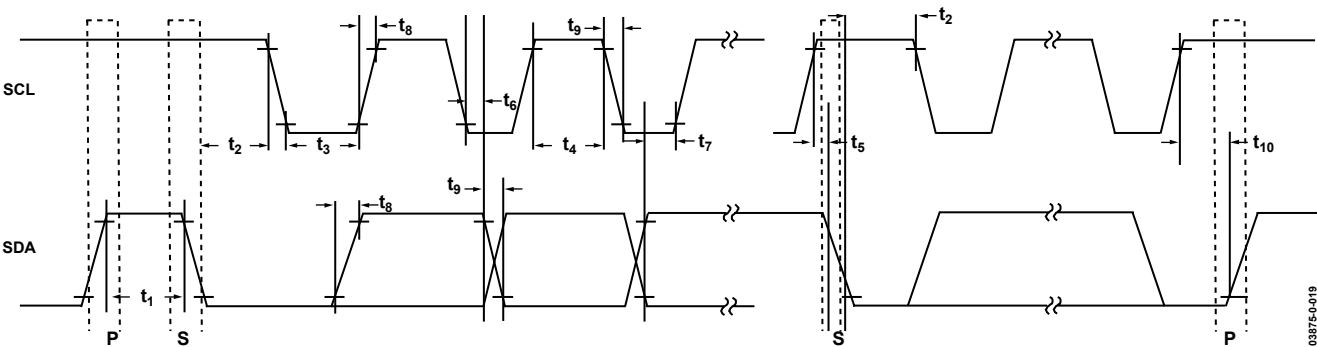
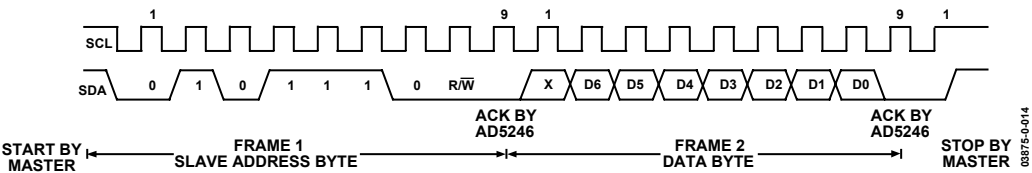
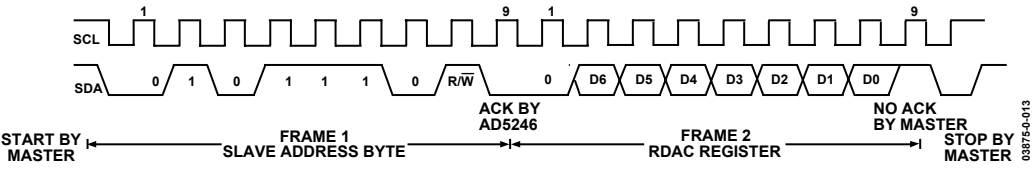

Figure 25. I2C Interface, Detailed Timing Diagram
Figure 26. Writing to the RDAC Register
Figure 27. Reading from the RDAC Register
3 See timing diagrams (Figure 25, Figure 26, Figure 27) for locations of measured values.
1. The master initiates data transfer by establishing a START condition, which is when a high-to-low transition on the SDA line occurs while SCL is high (see Figure 26). The following byte is the slave address byte, which consists of the 7-bit slave address followed by an R/W bit (this bit determines whether data will be read from or written to the slave device).
3. In read mode, after acknowledgement of the slave address byte, data is received over the serial bus in sequences of nine clock pulses (a slight difference from the write mode where eight data bits are followed by an acknowledge bit). Similarly, the transitions on the SDA line must occur during the low period of SCL and remain stable during the high period of SCL (see Figure 27).
4. When all data bits have been read or written, a STOP condition is established by the master. A STOP condition is defined as a low-to-high transition on the SDA line while SCL is high. In write mode, the master will pull the SDA line high during the tenth clock pulse to establish a STOP condition (see Figure 26). In read mode, the master will issue a No Acknowledge for the ninth clock pulse (i.e., the SDA line remains high). The master will then bring the SDA line low before the tenth clock pulse, which goes high to establish a STOP condition (see Figure 27).